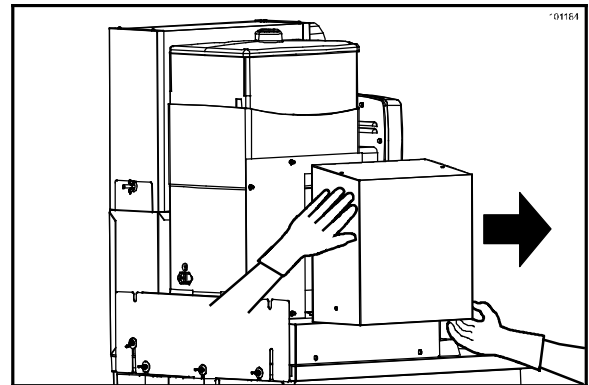

Figure 82
28. Remove the box by sliding it forward. Place the box on a clean, stable surface. (See Figure 82.)